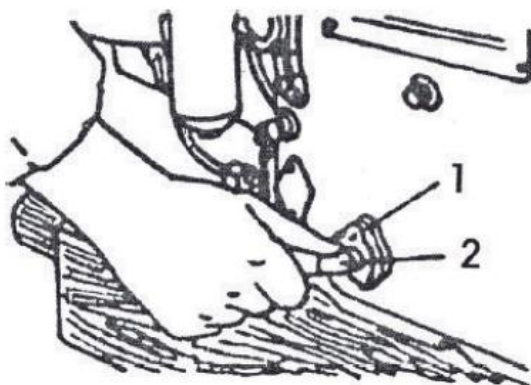

Fig. 5 Escorvar o sistema de injeção de combustível
- Adjust the speed - control lever knob to the "START" position indicated on the panel. Move the fuel priming lever back and forth until you notice a "jolt" action of the fuel injector (Fig.5).